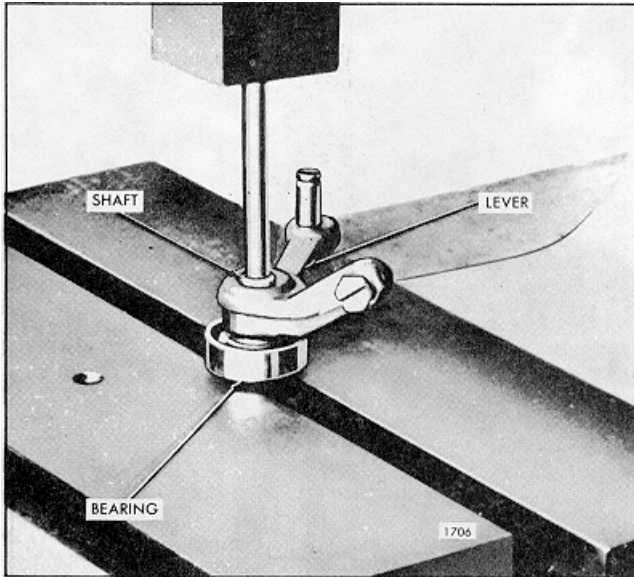

Fig. 6 Removing Operating Shaft from Operating lever
- i. Support the operating shaft and lever on bed of press as shown in Fig. 6. Press the shaft from the operating lever and bearing with a brass rod.